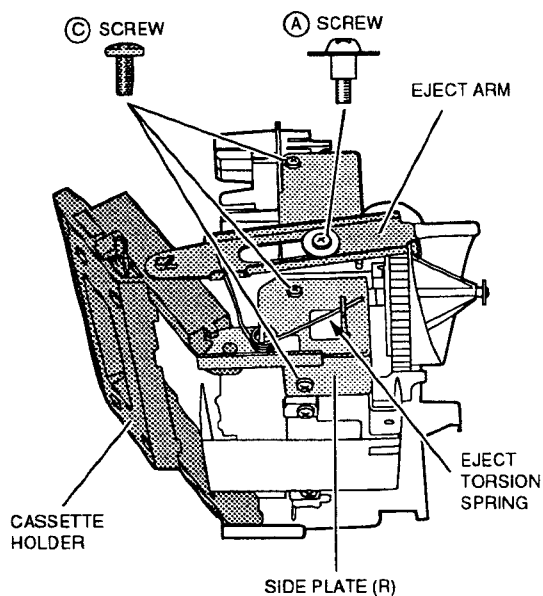

Fig. 3-20
- 2) Remove the (A) graduated screw and remove the EJECT ARM and the EJECT TORSION SPRING as shown in Fig. 3-20)
- 1) Remove the (A) graduated screw and remove the EJECT ARM and the EJECT TORSION SPRING as shown in Fig. 3-20)
- 2) Remove the three (C) screws then remove the SIDE PLATE (R) and CASSETTE HOLDER shown in Fig. 3-20.